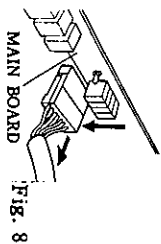

Fig. 8
* Press hard the connector and pull it toward you (Fig. 8).